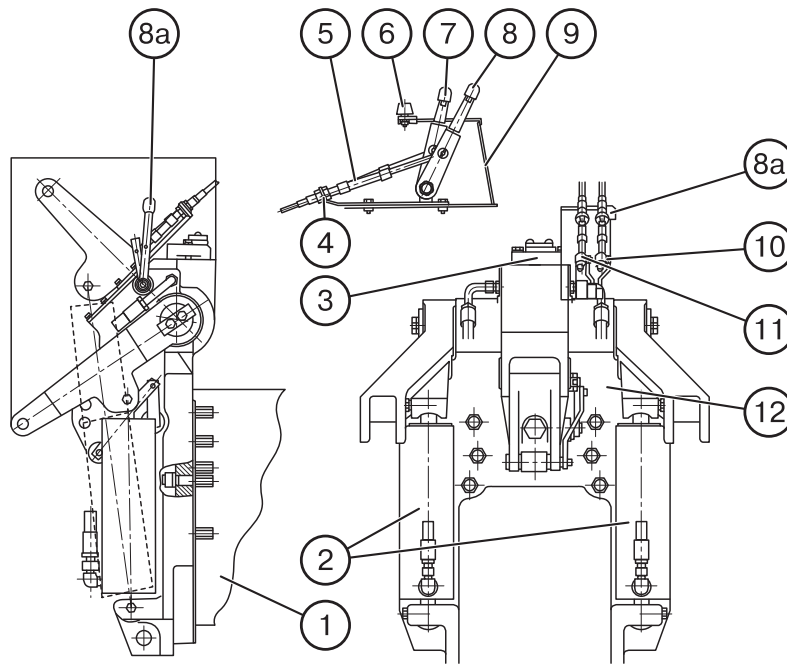
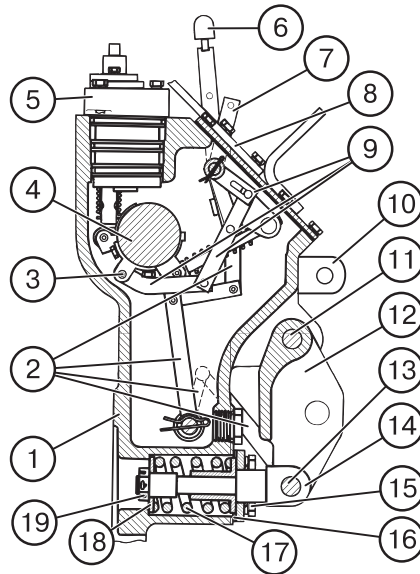

Fig.D-29. Hydraulic power lift of the HLL (monoblock):
Fig.. D-30. Hydraulic power lift construction:
Hydraulic Power Lift (Fig. D-29, E-30)
The control unit is mounted in the monoblock (1) (Fig. D-30) and consists of a position sensor in the form of a bracket attached to shaft (4) of the RHL lift levers (10); draft sensor involving the coupling link (12) mounted on axle (11) in the monoblock (1) and coupled with rod (14) on pin (13). The spring (17) preloaded by the nut (19) is fitted on the rod (14). Through a leverage system (9) the position sensor (3) is connected to position handle (6). The pin (13) of the rod (14) is coupled with draft handle (7) through leverage (2).
When the position control is used, the draft handle (7) (Fig. D-30) should be shifted to its foremost position, in the direction of the tractor forward travel. Further control of the hitch linkage is achieved by means of the position lever (6) (Fig. D-30) and handle (7) via ropes (5) (Fig. D-29). When moving the lever (6) backward, the hitch linkage is lifted and then moving the lever (6) forward, the hitch linkage is lowered. This adjusting process is performed by means of the regulator-distributor built in the monoblock (1) and controlled by means of the position sensor (3).
Using the position control handle (8) (8) (Fig. D-29) for limiting the ploughing depth when operating in the draft control mode makes it possible to achieve the **combination adjustment**.
The hydraulic power lift drive (Fig. D-29) consists of a bracket (4) with the draft (7) and position (8) handles mounted on it. The latter are connected to the draft (11) and position (10) levers, respectively, by means of two-way ropes (5). The control levers are locked by spring-loaded friction disks.